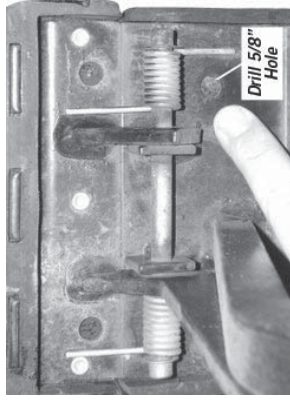
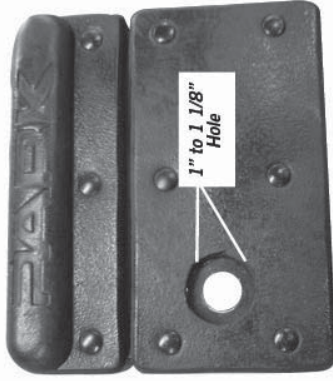

Figure 1 - Drill Pedal
Figure 2 - Prepare Pedal
- 1) Locate on the back of the pedal a pre drilled hole just below the parking return spring. See figure 1. This is the area the switch will be mounted. One method of mounting the switch is the use of a 1 1/8" hole saw for cutting the rubber pad only. Mark center of the pre drilled hole by using a smaller drill bit, creating a pilot hole through the rubber pad. From the rubber pad side, center the hole saw into the pre-drilled centering hole, then use the hole saw to cut out the rubber area only. See figure 2.
- 2) Drill the pre existing hole in the pedal to 5/8" (Figure 2).